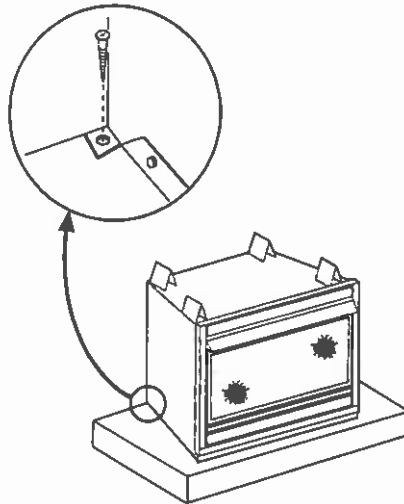

Figure 14
**Step 8. Position Heater** – Place the heater in desired location. It may be helpful to temporarily assemble the surround around the appliance to properly locate the unit. Refer to Figure 14 for floor and platform installations. If the heater is to be installed into a framed wall refer to the built-in assembly steps beginning on page 5.
**Step 9. Secure Heater** – Bend the tabs down (Figure 14). Using two (2) screws securely tighten the appliance to the platform.